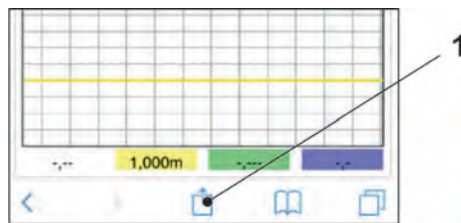

Fig. 31-16 Set up link
8. To set up a link on the Home screen (for direct access), tap the "Provide" icon (Fig. 31-16 Pos. 1).